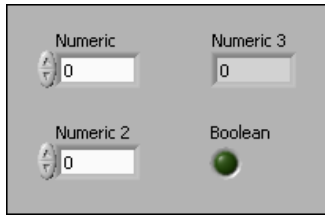

Figure 9. Creating the Front Panel
1. Place the following controls on the block diagram as shown in Figure 9: